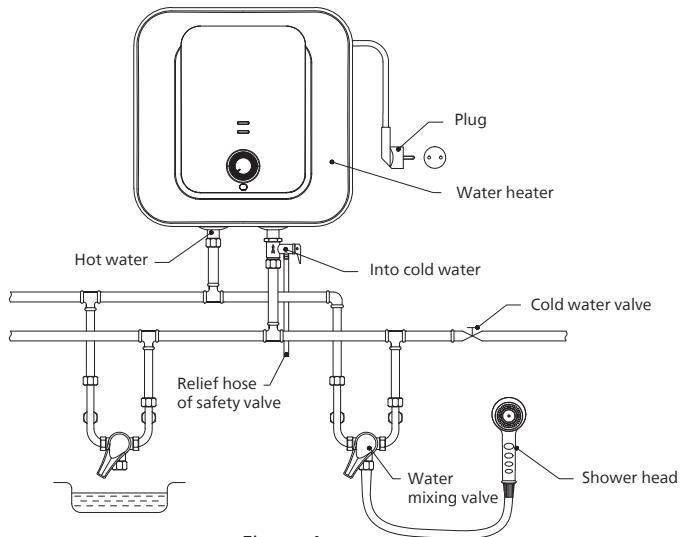

Figure 4
- Ans to supply hot water in multiple places, please refer to (Figure4) for pipeline connection and installation.